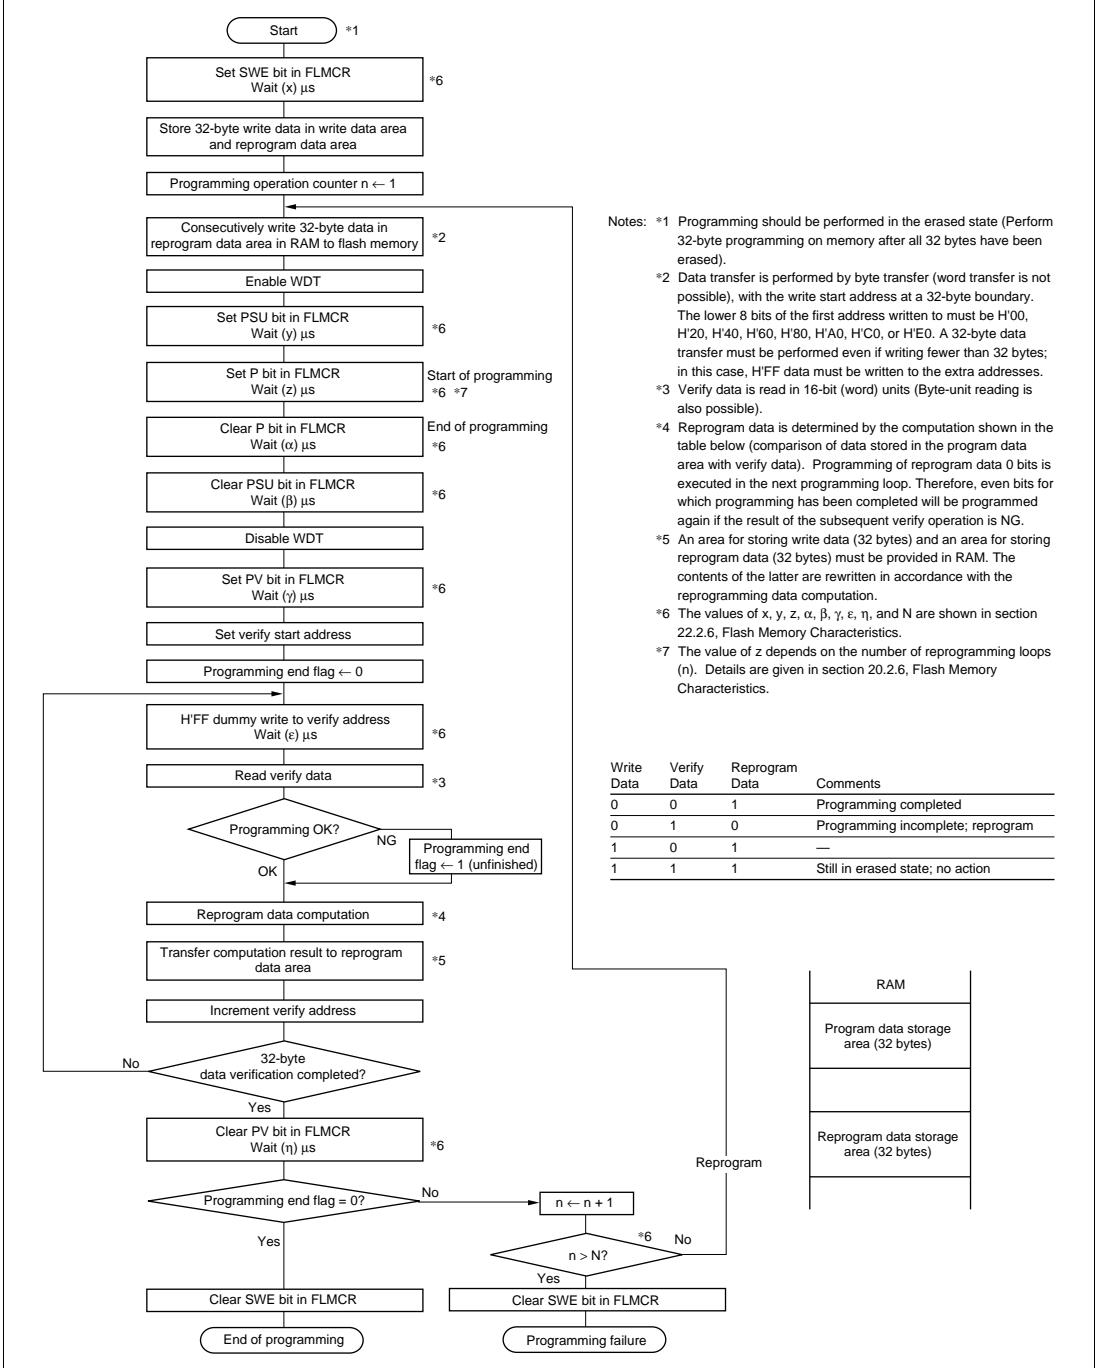

Figure 17.11 Program/Program-Verify Flowchart (32-byte Programming)
When writing data or programs to flash memory, the program/program-verify flowchart shown in figure 17.11 should be followed. Performing programming operations according to this flowchart will enable data or programs to be written to flash memory without subjecting the device to voltage stress or sacrificing program data reliability. Programming should be carried out 32 bytes at a time.
Clear the P bit in FLMCR, then wait for at least (α) μ s before clearing the PSU bit to exit program mode. After exiting program mode, the watchdog timer setting is also cleared. The operating mode is then switched to program-verify mode by setting the PV bit in FLMCR. Before reading in program-verify mode, a dummy write of H'FF data should be made to the addresses to be read. The dummy write should be executed after the elapse of (γ) μ s or more. When the flash memory is read in this state (verify data is read in 16-bit units), the data at the latched address is read. Wait at least (ϵ) μ s after the dummy write before performing this read operation. Next, the originally written data is compared with the verify data, and reprogram data is computed (see figure 17.11) and transferred to RAM. After verification of 32 bytes of data has been completed, exit program-verify mode, wait for at least (η) μ s, then determine whether 32-byte programming has finished. If reprogramming is necessary, set program mode again, and repeat the program/program-verify sequence as before. The maximum number of repetitions of the program/program-verify sequence is indicated by the maximum number of programming operations (N).